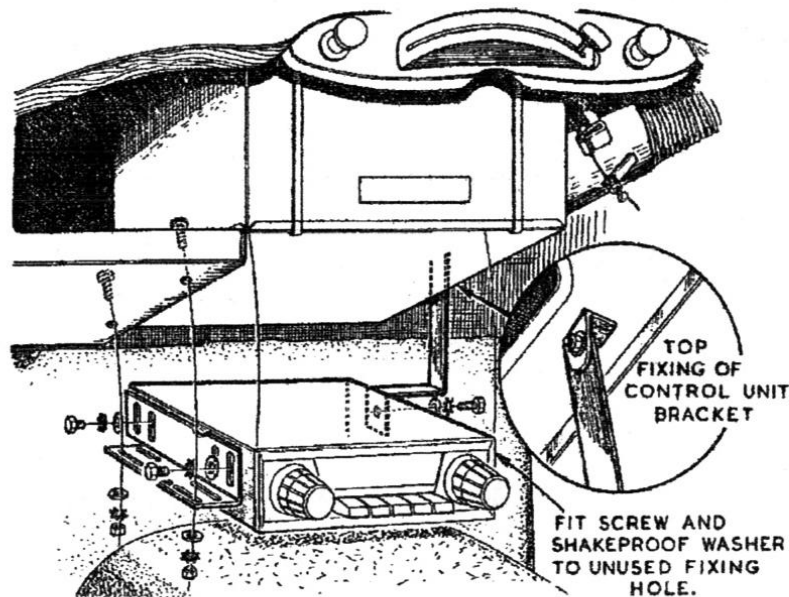

Fig. 4.
1. Assemble angle bracket to control unit as shown in Fig. 4, using screws and washers provided. (Finger tight only).
2. Locate control unit in line with the parcel tray rail underneath the heater unit (with the front of the control unit flush with the front face of the heater unit), and with the angle bracket underneath the end of the parcel tray. See Fig. 4.
5. Attach top of strip bracket to attachment lug on the scuttle panel reinforcement member as shown in Fig. 4 inset, using 10 UNF screw, washers and nut provided. (Finger tight only).
11. (Models 400T, 401T, 402T and 230R only). Assemble screw and washer provided to unused fixing point on the control unit as shown in Fig. 4.